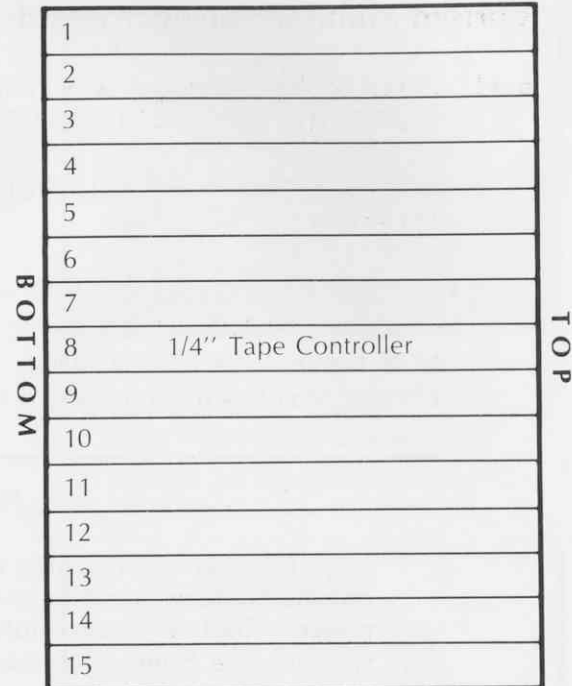

Figure 87 Typical 1/4" Tape Controller Location
6.23 IF YOUR SYSTEM HAS A 1/4" INCH TAPE CARTRIDGE DRIVE, locate the Sun 1/4" tape controller board. This board is most likely in Slot 8 of the card cage, as shown in Figure 87.